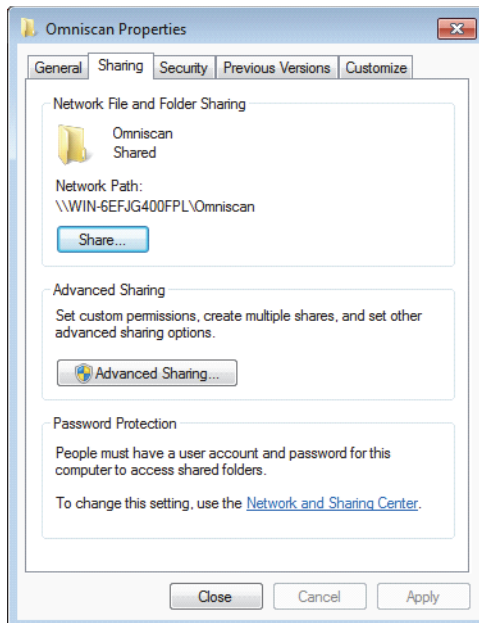

Figure 7-27 The Omniscan Properties dialog box (Windows 7)
3. In the **Omniscan Properties** dialog box, click the **Sharing** tab (see Figure 7-27 on page 217).
8. In the **Omniscan Properties** dialog box, click **Advanced Sharing**. (see Figure 7-27 on page 217).